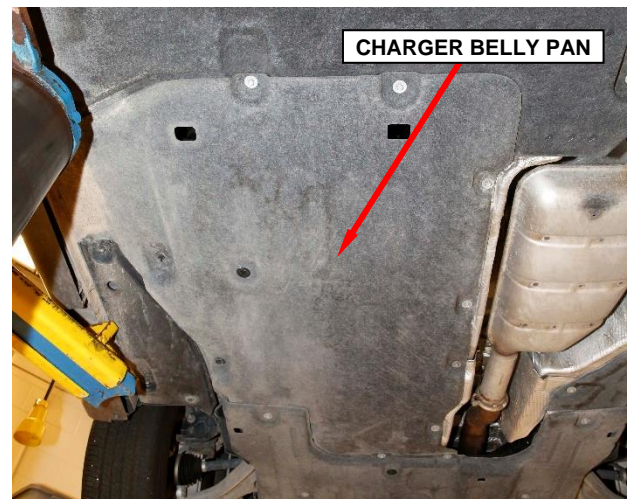

Figure 15 – Charger Belly Pan
3. Remove the fasteners then remove the charger belly pan (Figure 15).
35. Install the charger belly pan then install the fasteners securing the charger belly pan (Figure 15).